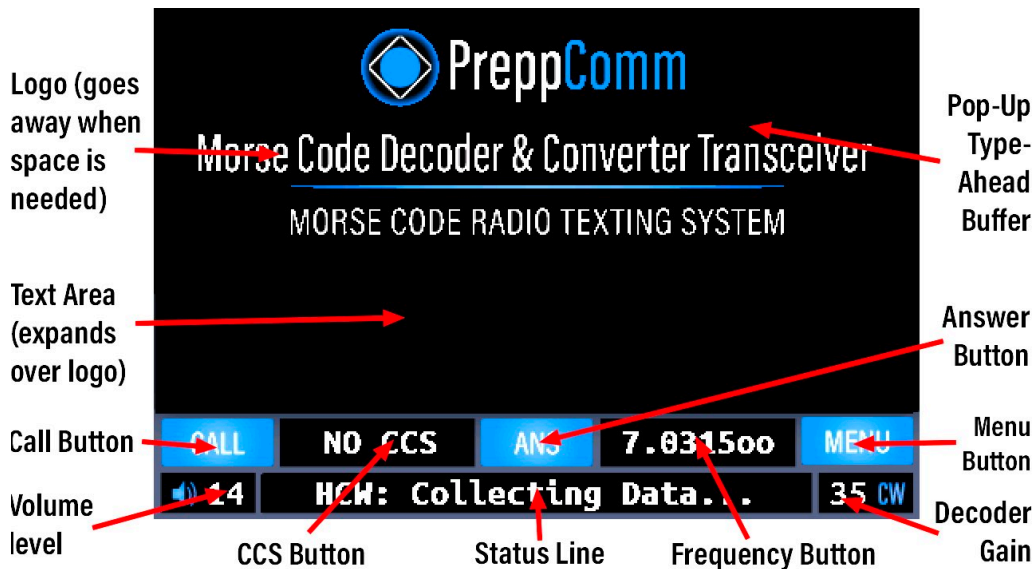

FIGURE 1: MAIN SCREEN
The MMX start up in **External Mode**, or Companion Mode, and is discussed in detail in Section II. This is displayed in the Frequency Button. In Figure 1 below, the Frequency Button shows a 40M frequency, so this is clearly not a MMX ZERO screen, which always shows **External** in the Frequency Button space.
1. Connect the MMX to a power source, and press the red Power button. The *Splash Screen* will display for approximately 3 seconds, followed by the *Main Screen* then is displayed, as shown in Figure 1 below.
The MMX start up in External Mode, or Companion Mode, and is discussed in detail in Section IV. Pressing External Mode on the LCD Display (Frequency Button in Figure 1) switches to your lowest band transceiver function. Pressing repeatedly will cycle through the available bands and External Mode.